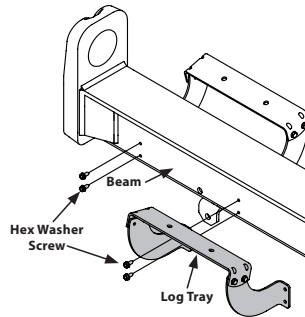

Figure 6
15. Disconnect the log tray from the beam on the control valve side by removing the two hex washer screws that secure it to the beam weld brackets and the two hex washer screws in the beam. See Figure 6.